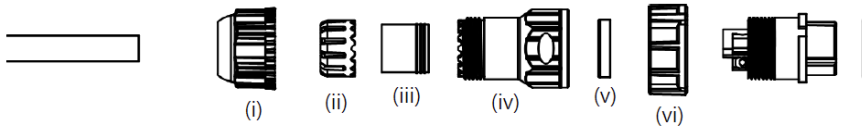

Figure 47: Insert Ethernet cord
1. Insert the Ethernet cord through each component – sealing nut (i), clip (ii), sealing (iii), sealing body (iv), gasket (v), and lock nut (vi) (Figure 47).